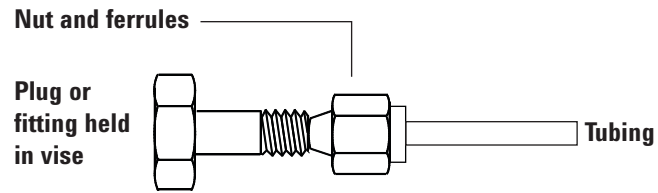

Figure 26 Assembling the fitting
- 3 Push the tubing into the stainless steel plug (see Figure 26).